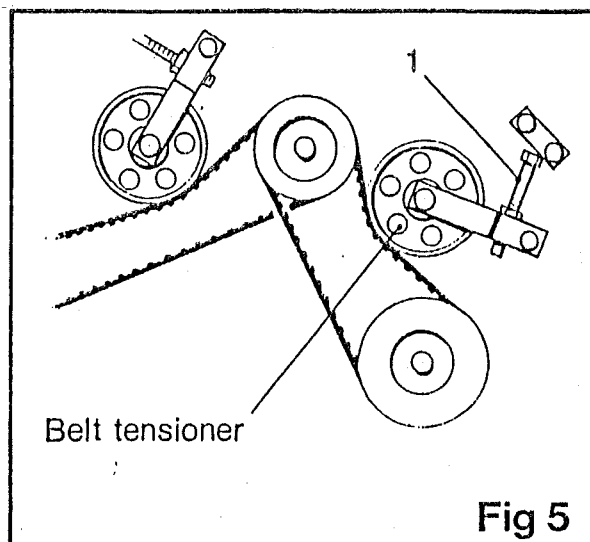

Fig 5
To adjust the tension of the drive belts, turn the belt tensioner adjuster screw (item 1, fig 5) clockwise or anti-clockwise until the correct tension is achieved. The correct adjustment should allow 5 mm to 7 mm of movement of the belts at a point midway between the drive pulleys. After all the necessary adjustments have been made it is essential that the guards are securely replaced to avoid loose tops and trash blocking the pulley teeth and causing damage to the belts. Never allow the belts to run slack as this will result in severe damage and their subsequent failure.